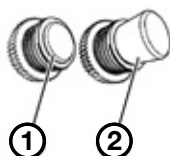

Figure 6: breakers 1-operating 2-tripped
2. Make sure the circuit breakers are properly set (see Figure 6).